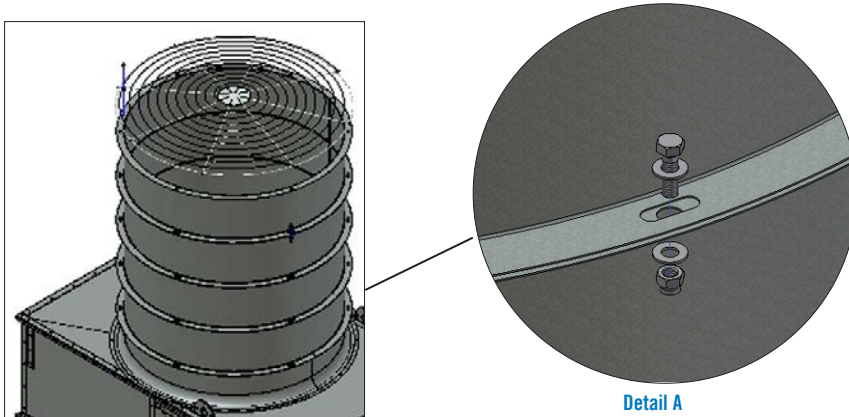

Figure 34. Fan Cowl Extensions
1. Fasten the fan cowl extensions through the large diameter pre-punched holes using the provided hardware as shown in **Figure 34, Detail A**.